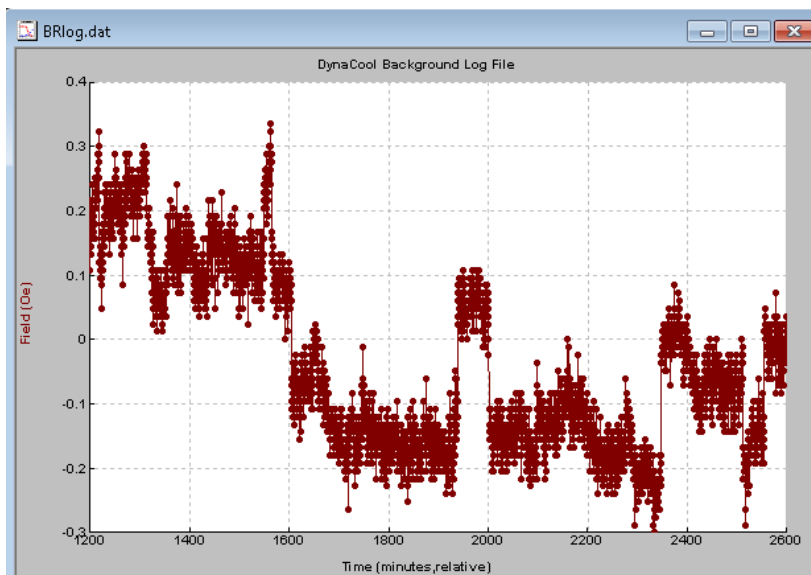

Figure 1: long term field fluctuations at H=0 in DynaCool D-113 at Purdue.
- Field **stability**: ± 0.05 Oe (noise), ± 0.3 Oe (long term drift), see Figure 1 below; this is a consequence of having a high current power supply always connected to the system.